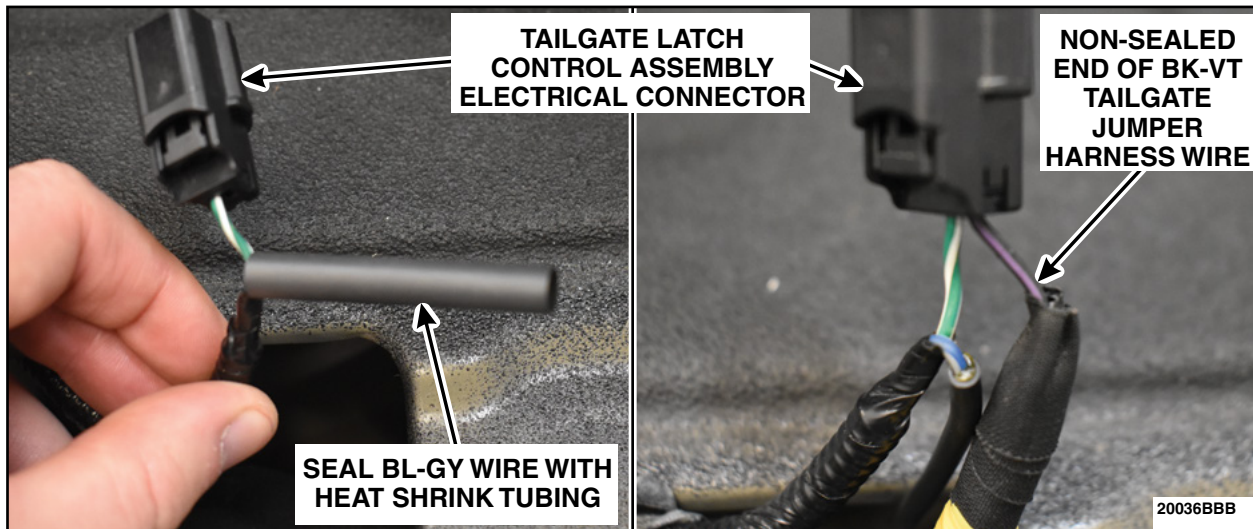

FIGURE 56
76. Seal the BL-GY wire using heat shrink tubing. Install the non-sealed end of the BK-VT Tailgate Jumper Harness wire into the tailgate latch control assembly electrical connector. See Figure 56.